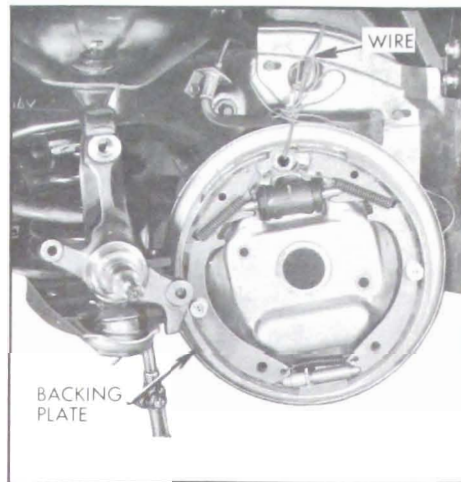

Figure 7-23—Wiring Brake Backing Plate out of Way
3. Remove the two bolts and nuts, and the anchor bolt holding the brake backing plate to the knuckle. Remove the backing plate but do not disconnect the brake hose. Support the backing plate in such a manner that the hose will not be damaged. Backing plate may be wired out of the way. See Figure 7-23.